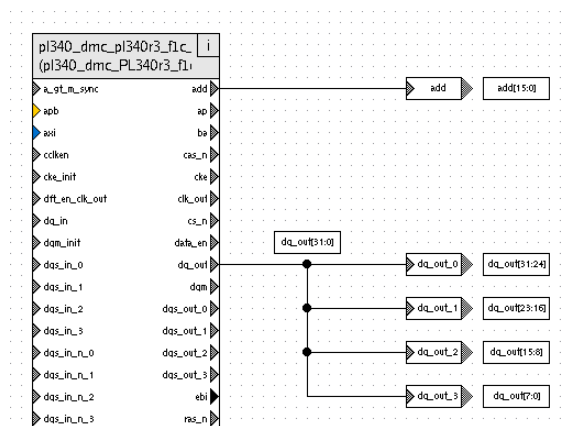

Figure 6-3 Multiple bit-slice connections
3. Click **OK** to save the new L and R signal port values and close the IP-XACT Connections dialog box. Figure 6-3 on page 6-7 shows the sliced connection.